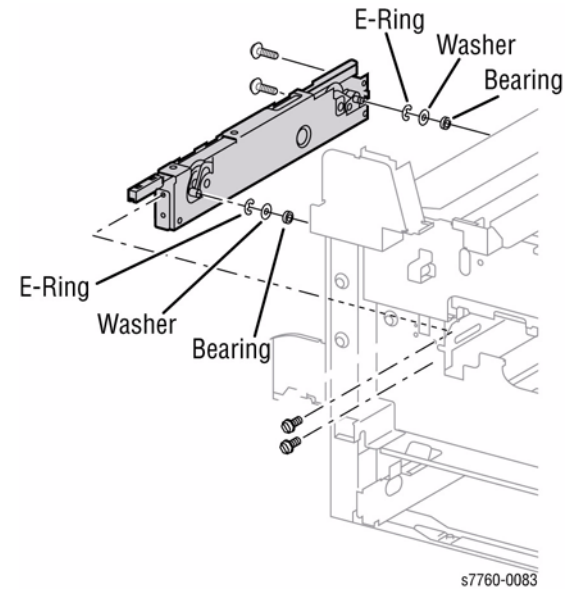

Figure 1 Removing Left Xerographic Lift
22. Removing the Left Lift Assembly (Figure 1).